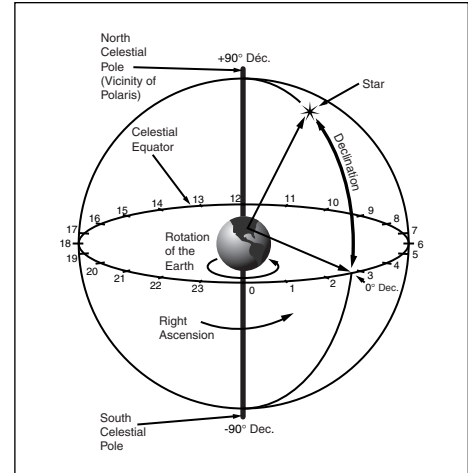

Fig. 8: Celestial Sphere.
The celestial map also contains two poles and an equator just like a map of the Earth. The celestial poles are defined as those two points where the Earth's North and South poles, if extended to infinity, would cross the celestial sphere. Thus, the North Celestial Pole (see **Fig. 8**) is that point in the sky where the North Pole intersects the celestial sphere. The North Star, Polaris, is located very near the North Celestial Pole. The celestial equator is a projection of the Earth's equator onto the celestial sphere.
■ **Right Ascension (R.A.):** This celestial version of longitude is measured in units of hours (hr), minutes (min), and seconds (sec) on a 24-hour “clock” (similar to how Earth’s time zones are determined by longitude lines). The “zero” line was arbitrarily chosen to pass through the constellation Pegasus, a sort of cosmic Greenwich meridian. R.A. coordinates range from 0hr 0min 0sec to 23hr 59min 59sec. There are 24 primary lines of R.A., located at 15-degree intervals along the celestial equator. Objects located further and further East of the zero R.A. grid line (0hr 0min 0sec) carry higher R.A. coordinates. See **Fig. 8**.
■ **Declination (Dec.):** This celestial version of latitude is measured in degrees, arc-minutes, and arc-seconds (e.g., 15° 27' 33"). Dec. locations North of the celestial equator are indicated with a plus (+) sign (e.g., the Dec. of the North celestial pole is +90°). Dec. locations South of the celestial equator are indicated with a minus (–) sign (e.g., the Dec. of the South celestial pole is –90°). Any point on the celestial equator (such as the constellations of Orion, Virgo, and Aquarius) is said to have a Declination of zero, shown as 0° 0' 0." See **Fig. 8**.